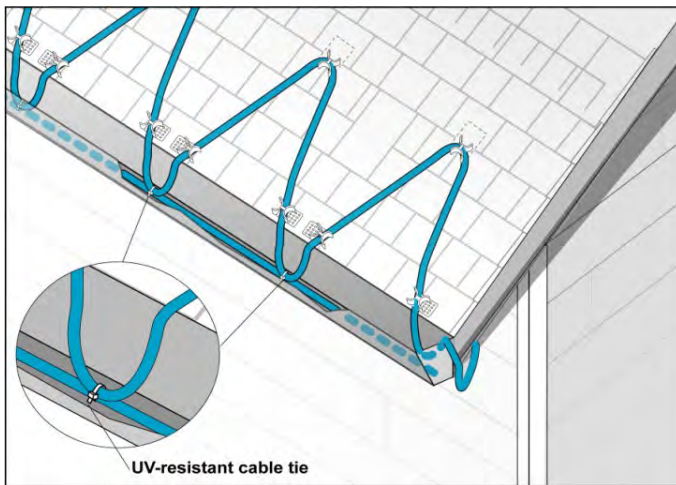
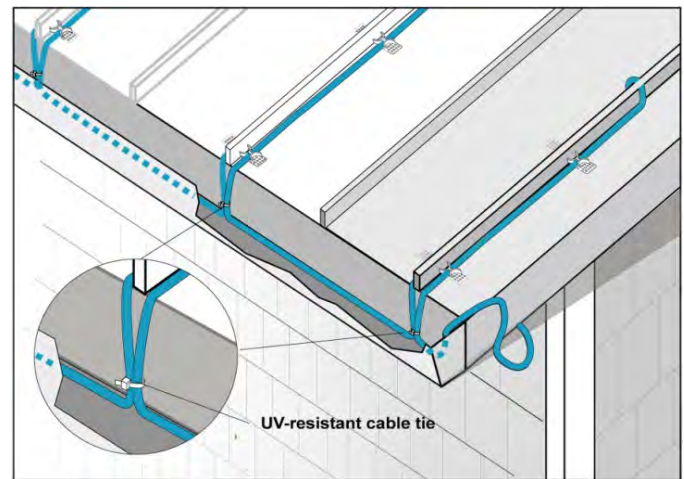

Figure 3: Shake and Shingle Roof Attachment
Figure 4: Metal Roof Attachment
1. Loosely loop the heating cable on the roof at the overhang area. Pull the bottom of each heating cable loop over the roof edge and, using a UV-resistant cable tie as. Connect the bottom of each loop to the cable running in the gutter. This will ensure a drainage channel for the melting ice to drain off the roof and into the gutter and downspout. The cable in the gutter should remain against the bottom of the gutter as shown in Figure 3 (Standard Roof) and Figure 4 (Metal Roof).